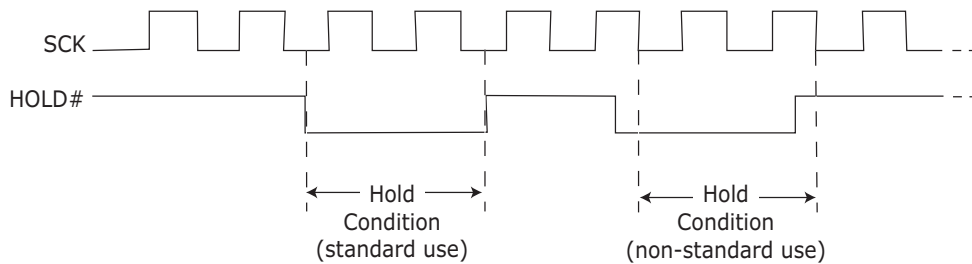

Figure 3. Hold Condition Activation
To enter the Hold condition, the device must be selected, with Chip Select (CS#) Low. The Hold condition starts on the falling edge of the Hold (HOLD#) signal, provided that this coincides with Serial Clock (SCK) being Low (as shown in Figure 3, on page 12).
If the falling edge does not coincide with Serial Clock (SCK) being Low, the Hold condition starts after Serial Clock (SCK) next goes Low. Similarly, if the rising edge does not coincide with Serial Clock (SCK) being Low, the Hold condition ends after Serial Clock (SCK) next goes Low (Figure 3). During the Hold condition, the Serial Data Output (SO) is high impedance, and Serial Data Input (SI) and Serial Clock (SCK) are Don't Care.